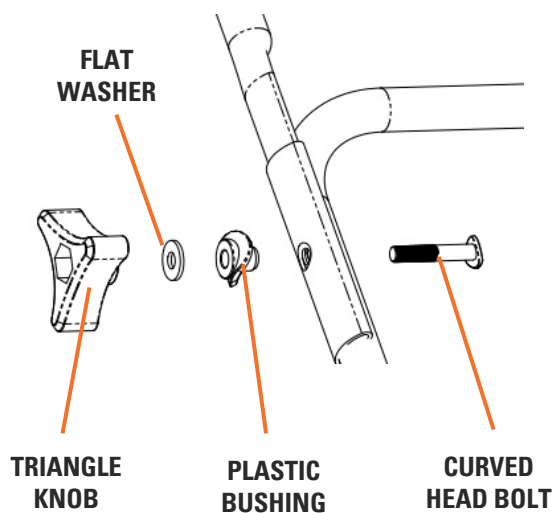

Figure 2
2. Place the upper handlebars on the lower handlebars aligning the holes in each. Insert the curved head bolt through the holes in the upper handle, the lower handle, plastic bushing and flat washer then secure with the triangle knob. Turn the triangle knob to tighten securely (see Figure 2).